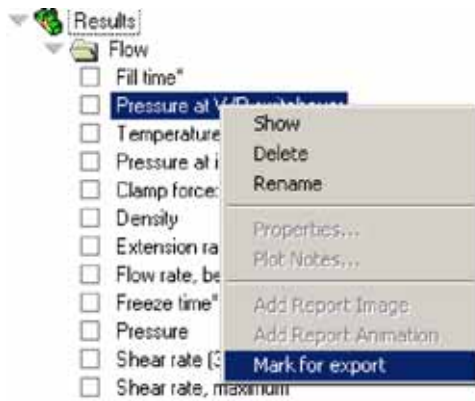

Figure 137: Result - Mark for export
4. Select **Mark for export** as shown in Figure 137.